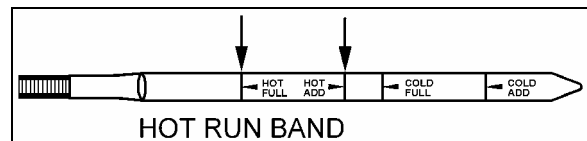

FIGURE 5: HOT CHECK
| FIGURE 5: HOT CHECK | 5 |
2. Park the vehicle on a level surface and shift to Neutral (N). Apply the parking brake and allow the engine to idle (500 - 800 rpm).
5. If the level **is not** within this band, add or drain fluid as necessary to bring the level within the HOT RUN band. (Fig. 5).